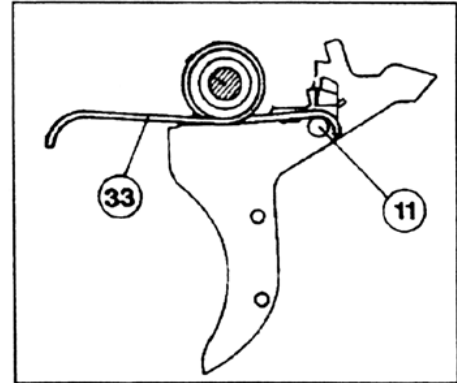

Figure 39
- Place the *trigger return spring* (33) coil on the left side of the *trigger axle* bushing, assuring the long hooked end of the *spring* is forward facing down. Place the short end on the notch on the *sear release latch axle* (11) (Fig. 39).